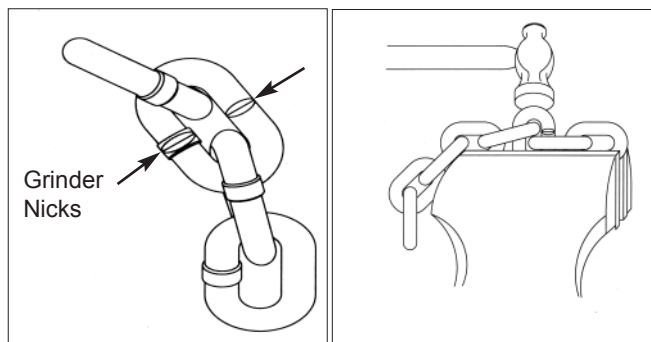

Figure 14. Cutting Chain by nicking
1. Use a grinder and nick the link on both sides (Figure 14), then secure the link in a vise and break off with a hammer.